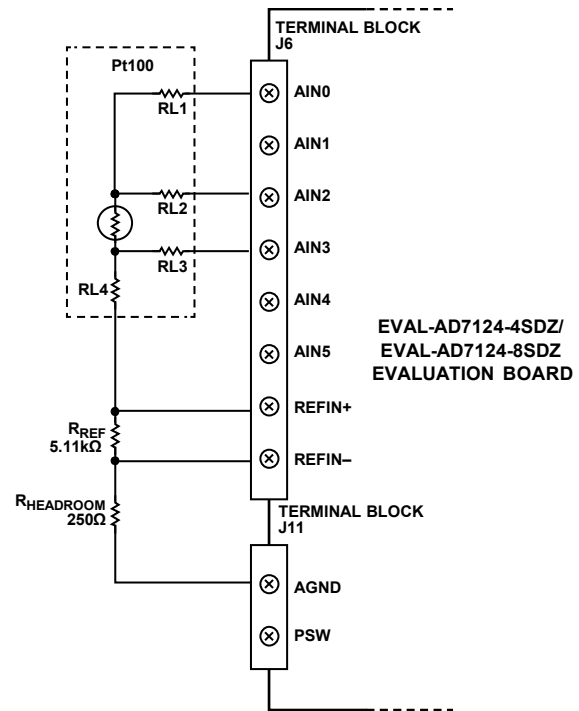

Figure 14. EVAL-AD7124-4SDZ/EVAL-AD7124-8SDZ Evaluation Board Connector for 4-Wire RTD Measurement
3. Connect the RTD, the precision reference resistor, and the resistor for headroom, as shown in Figure 14.